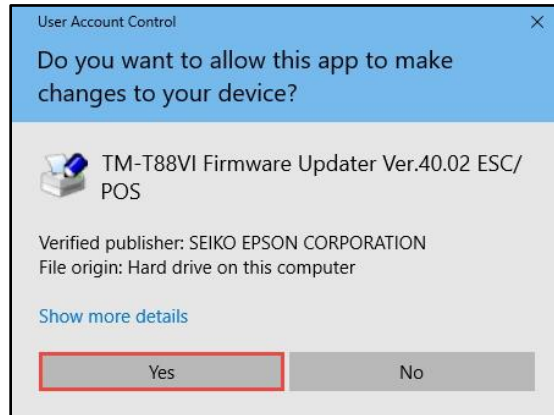

Fig. 1
3. Depending on your computer configuration, the following window may appear (Fig.1). Select "Yes" as highlighted in red below.